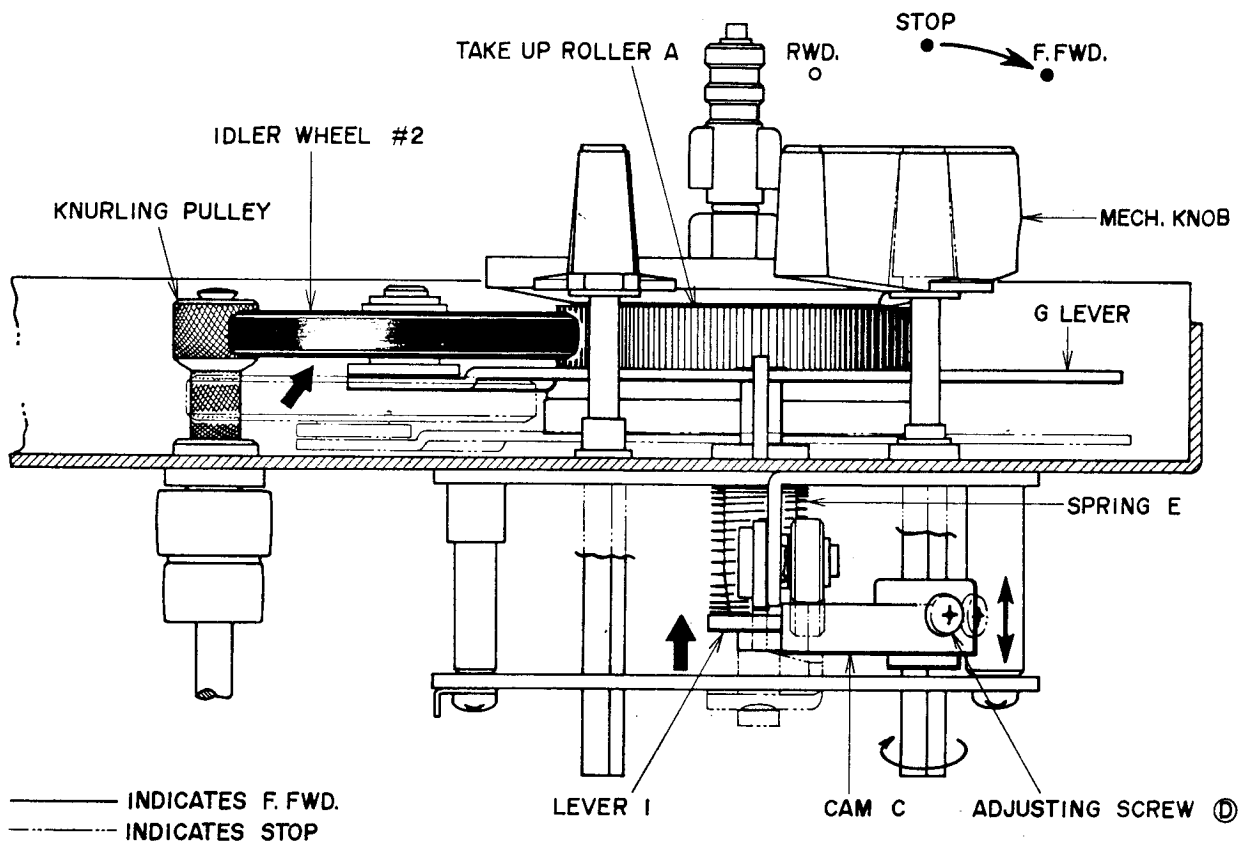

Fig. 14
Move Cam ③ shown in Fig. 14 up and down as indicated by the arrow mark (↔) in the figure and adjust Lever ④ height so that Idler #2 contact between Take Up Roller A and the knurling Pulley is uniform when the F.FWD/RWD Lever is set to F.FWD position. Fix at adjusted position with Adjustment Screw ⑤. During operation, confirm that the rotating position of Idler #2 is ideal.